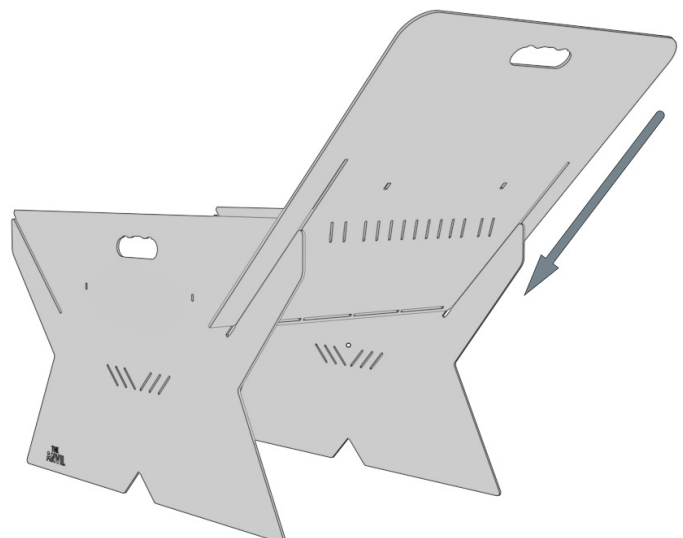

FIGURE 2
Step 2: Carefully slide the the Slot Side plate (S2) into the channels, as shown in Fig. 2